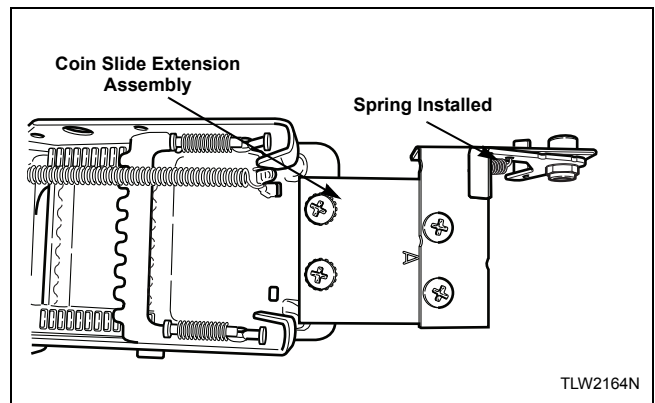

Figure 24
6. Install coin slide extension assembly onto top of coin slide using two remaining screws and lockwashers. Refer to *Figure 24*.
3. Install slide extension onto top of coin slide using two screws. Refer to *Figure 24*.